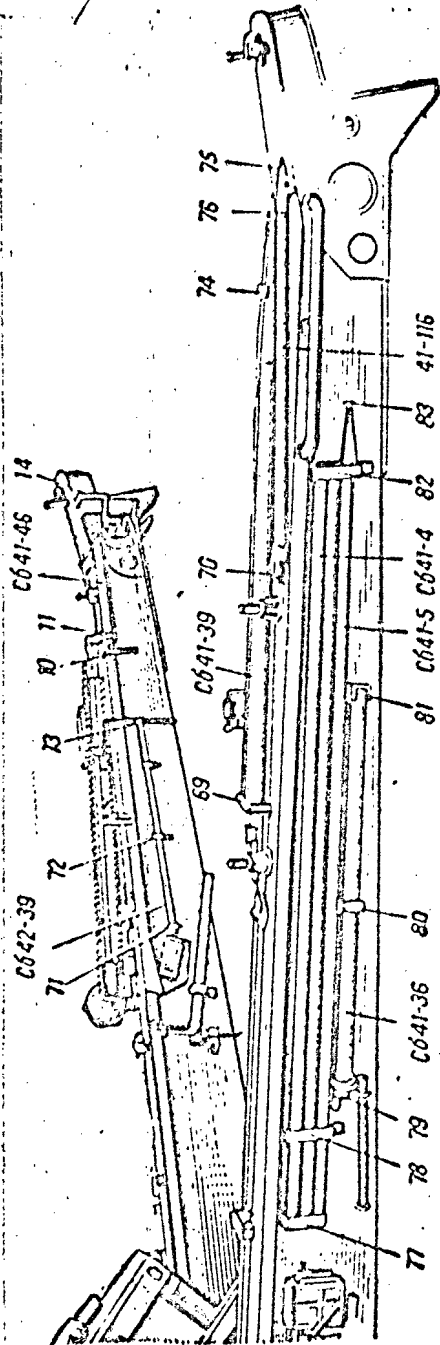

Fig 65. Trails. Attachment of Entrenching Tools
- support 77 (Fig. 65), holders 78 and 82, and head support 83 fasten rod Sb41-4 and head Sb41-5 of the rammer;
- bracket 11, support hammer 14 and screw 10 with tap wrench (Fig 65) fasten hammer Sb41-46;
- recesses 71 (Fig 65) and 73 and holder 72 fasten wrench Sb42-39.